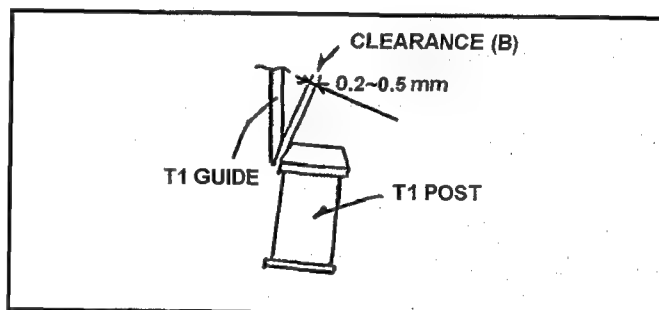

Fig. 10-8-2 Adjustment of T1 Guide
1. Observe the **clearance (B)** between T1 Guide and T1 post as shown in Figure 10-8-2. And make sure that it is within **0.2 to 0.5mm**.
2. If not, loosen the **2 screws (A)** and adjust the position of T1 Guide by moving to arrow direction ($G \rightleftharpoons G$) so that the **clearance (B)** is within specification. And tighten the **2 screws (A)**.